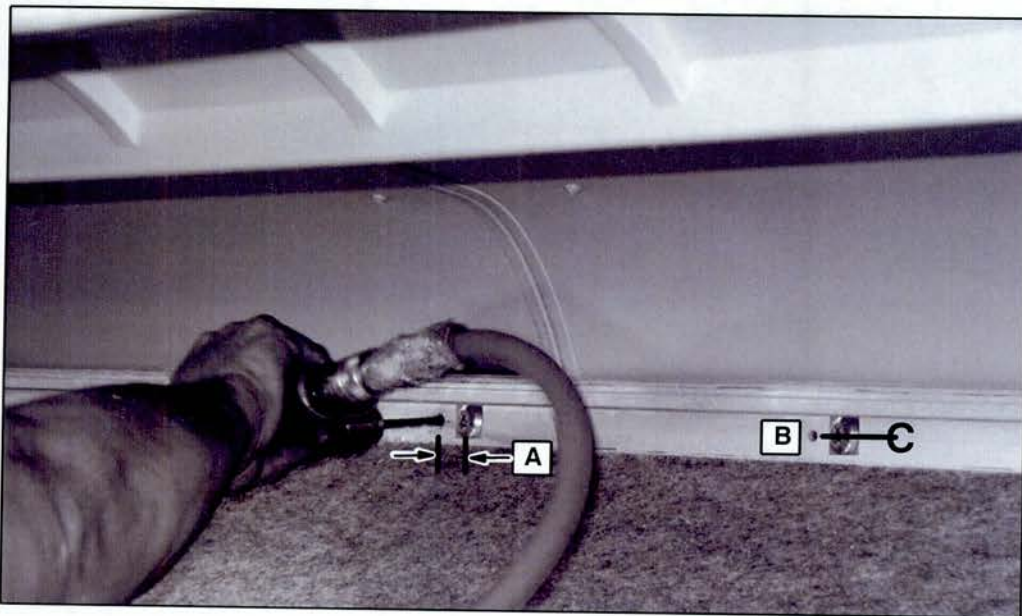

Figure 4.
- 9. Using a 9/32 drill bit, drill a hole 1.00 inch to the side of the existing mounting hardware through the aluminum extrusion and the stainless steel tube wall ( refer to Figure 4 ).